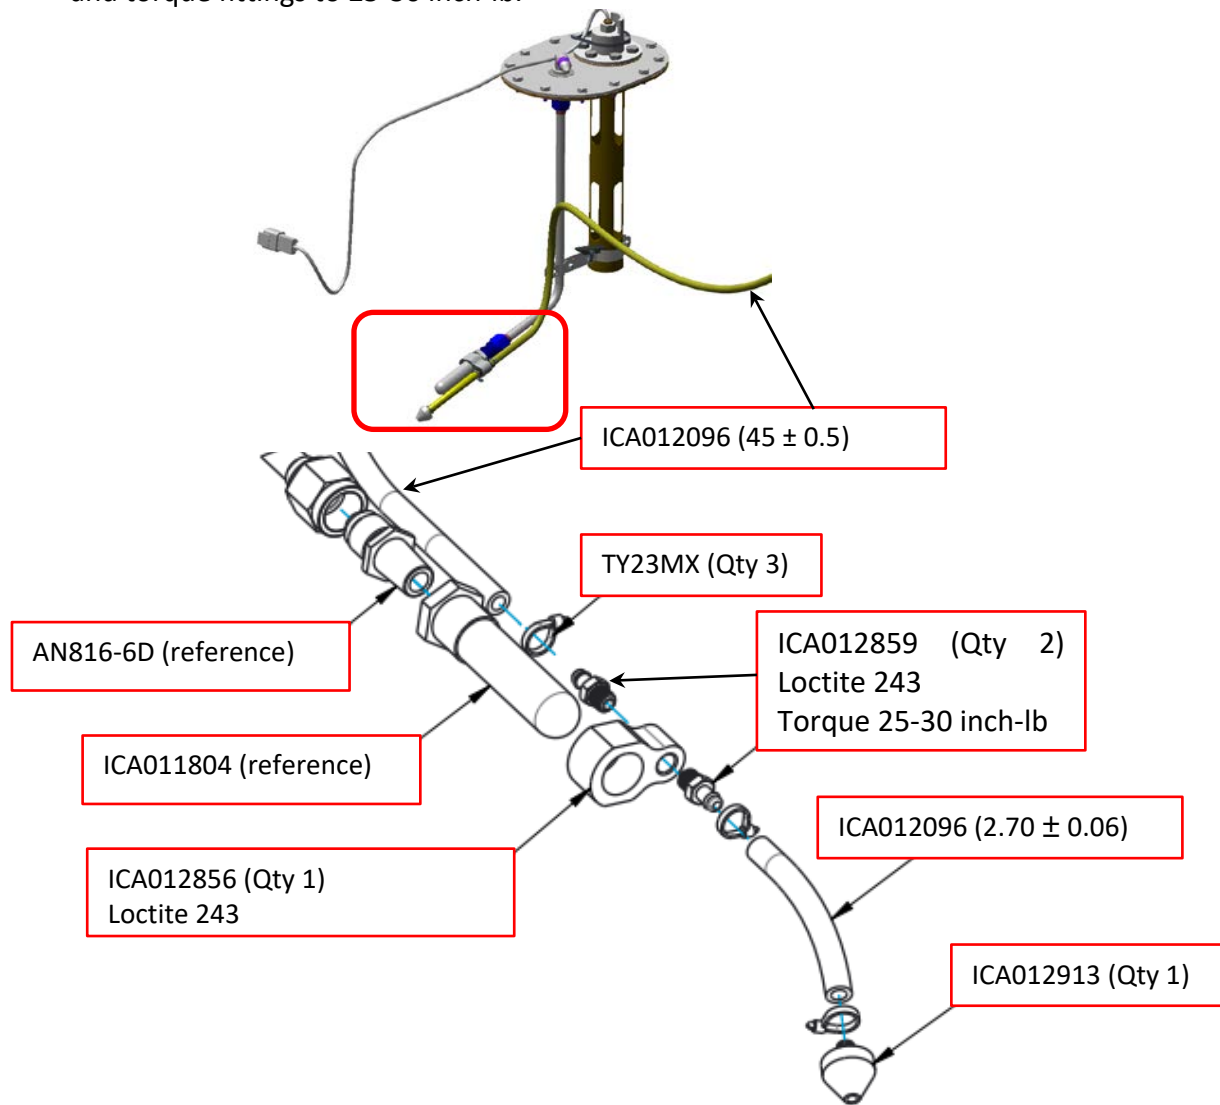

Figure 7: Fuel tank sump modification
1. Identify the male end of the fuel sump to fuel pickup clamp (ICA012856). The male end is the wider side of the tapered threads. Apply Loctite 243 in 360° bead to the lead threads of the male fitting. Thread the clamp onto finger strainer (ICA011804) to finger tight torque, then using the wrenching flats on the clamp and a second wrench opposing the torque on the finger screen orient the clamp as shown in Figure 7 below. Turn the clamp at least ½ turn tighter from finger tight, then continue tightening to orient fitting as shown, adding no more than a full turn. **Do not** loosen to achieve alignment.
3. Cut a length of Tygon tubing (ICA012096) to length of 2.70 ± 0.06 -inches and attach it to the straight fitting with a TY23MX ty-rap. Refer to Figure 7.
4. Install the clunk (ICA012913) on the opposite end of the 2.70 ± 0.06 -inch length tubing and ty-rap the fitting side of the clunk with a TY23MX ty-rap. Refer to Figure 7.